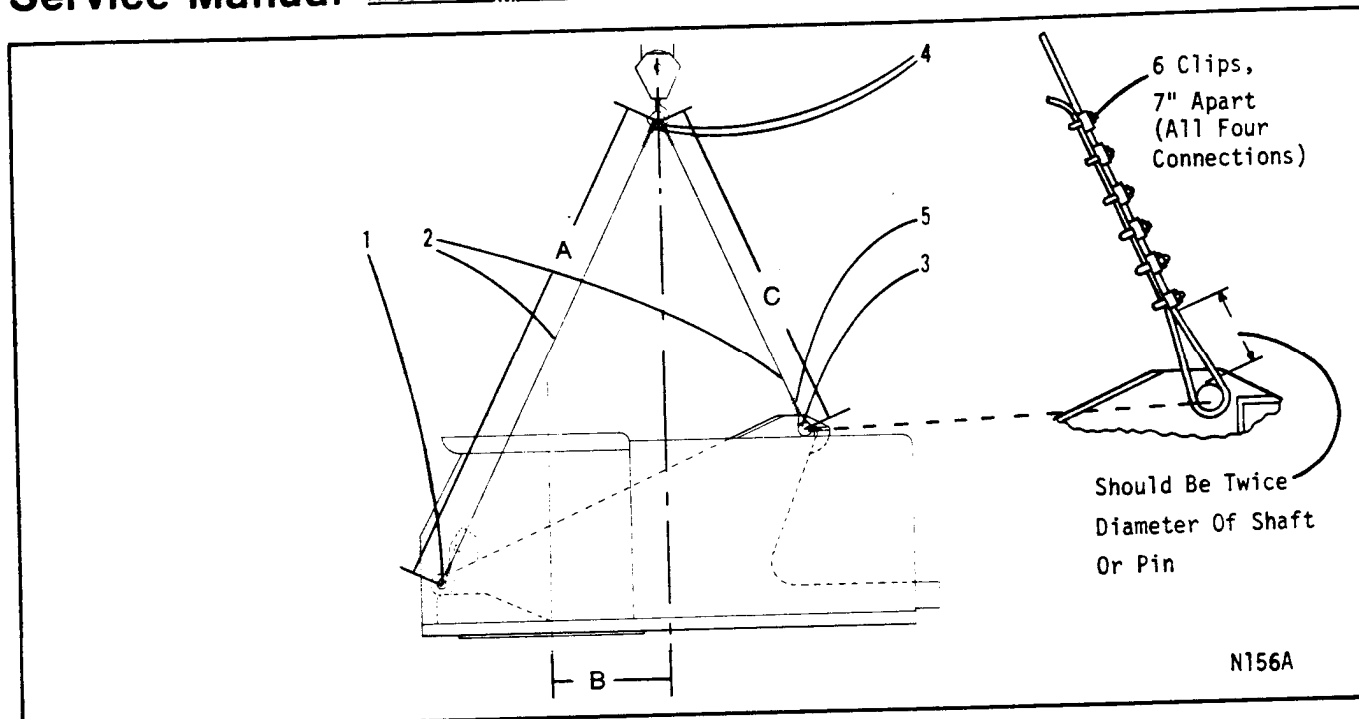

Fig. 1
- (b) Attach slings to upper. (See Fig. 1). Connect one leg to each boom foot pin, and one leg to each end of the extended boom hoist bail shaft. (Where the boom backstops mount). Install keeper pins or cotter pins in the boom foot pins to prevent their working out. Install a large washer, or a plate with a flame cut hole in the center over the bail shaft to prevent sling slipping off. Install a cotter pin or capscrew and locknut in the hole at each end of bail shaft to retain the washer or plate.
- (c) The sling must have four legs, and be strong enough to lift the upper. If using wire rope, use a minimum 1" diameter rope with a minimum breaking strength of at least 51 tons. FMC type N rope is recommended. Use new rope straight off the reel for making up the sling. Never use used, scrapped, or damaged rope for a sling as an accident may occur. Refer to Fig. 1 for more information. See section 14 in operators manual for information on installation of wire rope clips.